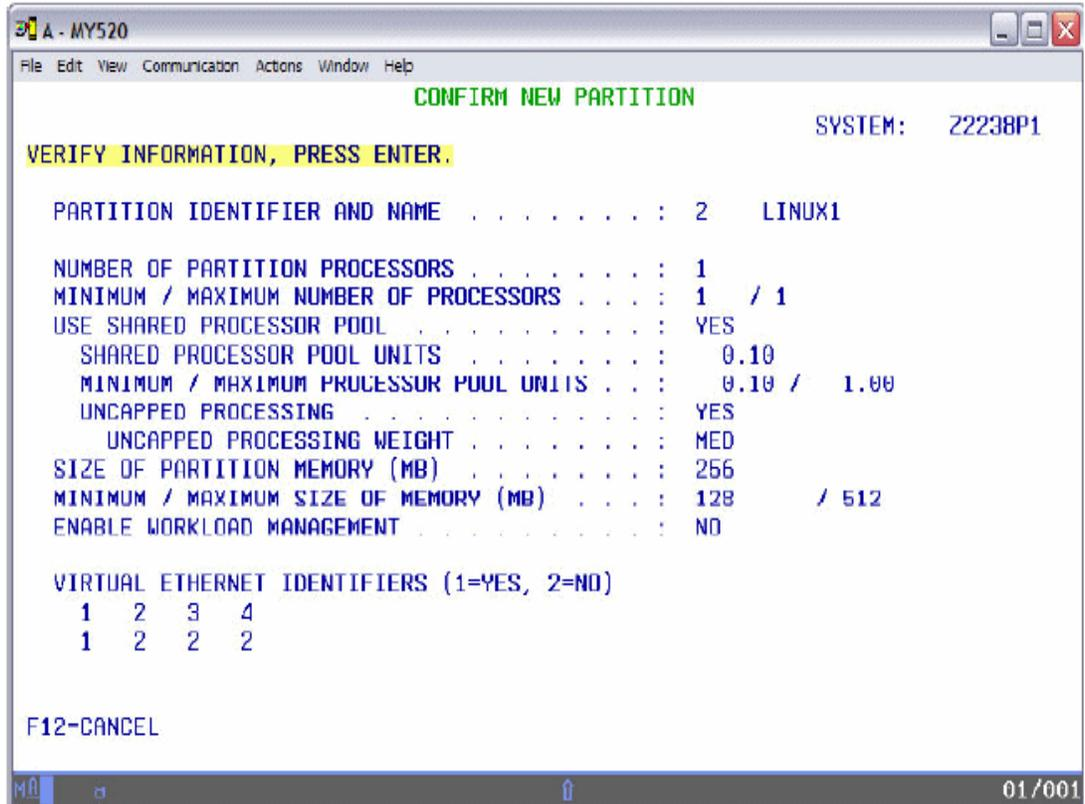

Figure 13-16 Confirm New Partition
- Once these values are set, you will get a confirmation display as shown below in Figure 13-16. Press Enter, and you will be returned back to the *Work with System Partitions* display. You can repeat the above steps to define another Linux partition, if necessary.